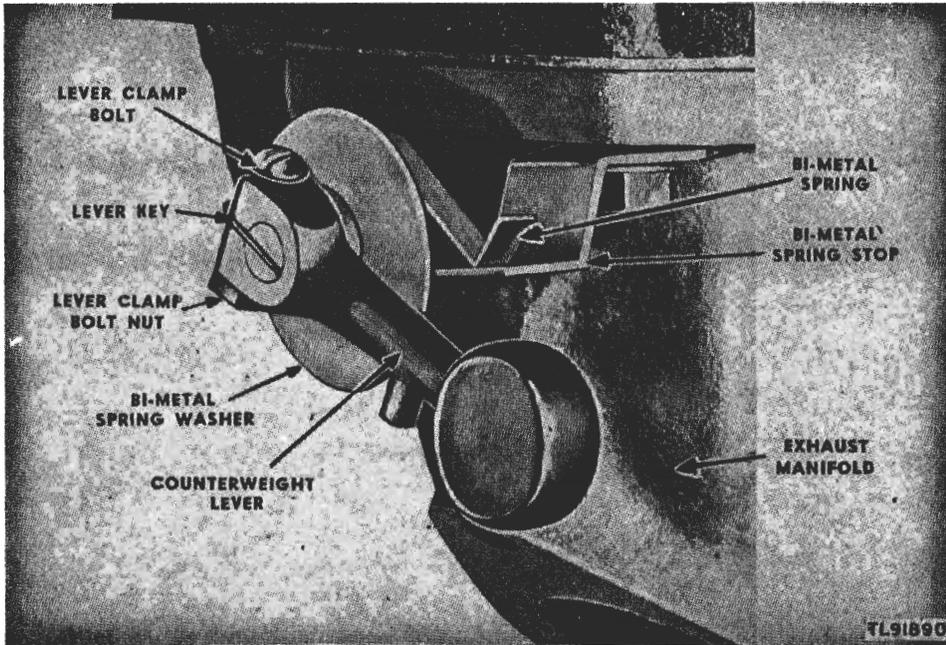

Figure 49. Heat control valve.
(2) *Functioning.* When the engine is cold, the counterweight lever closes the heat-control valve and directs the hot exhaust gases against the intake manifold (fig. 49). As the engine warms up, the bimetal spring expands and opens the valve directing the exhaust gases into the exhaust pipe.